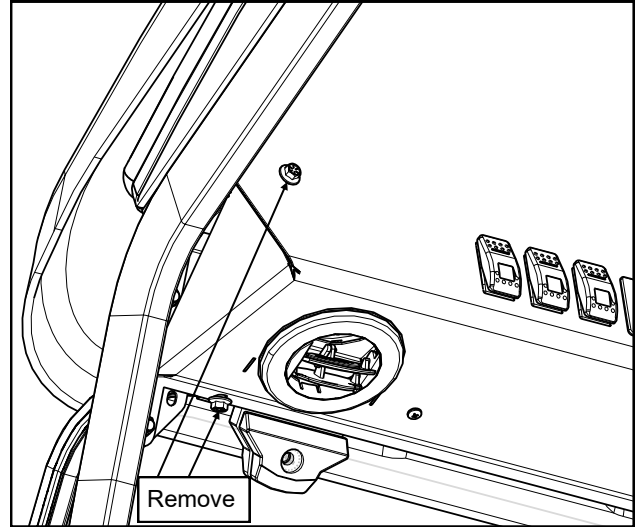

Fig. 1.1
- 1.1 To remove overhead console, remove the 1/4-20 hex head bolts located in the corners of the console. See figure 1.1.